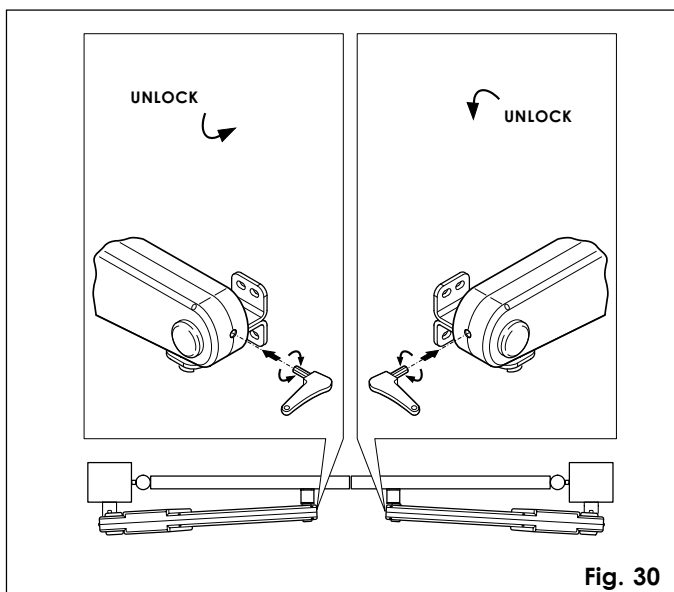

Fig. 30
- Fit the supplied Allen wrench in the front part of the operator and turn it clockwise for 5 turns (fig. 30).